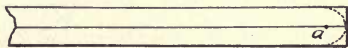

FIG. 105. — LAYING OUT ENDS OF RUNNERS.
4. **Making the runners.** — The runners are made of two pieces of  $2'' \times 6'' \times 10' 4''$ . The ends are rounded off by drawing an arc of a circle  $2''$  in radius, holding the two planks as shown in Fig. 105, placing the point